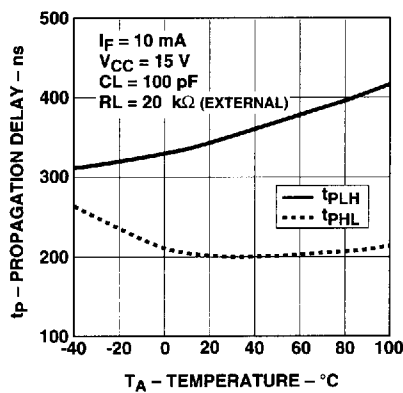

Figure 12. Propagation Delay with External 20 kΩ RL vs. Temperature.
11. Due to the tolerance of the internal resistor, and since propagation delay is dependent on the load resistor value, performance can be improved by using an external 20 k $\Omega$  1% load resistor. For more information on how propagation delay varies with load resistance, see Figure 12.